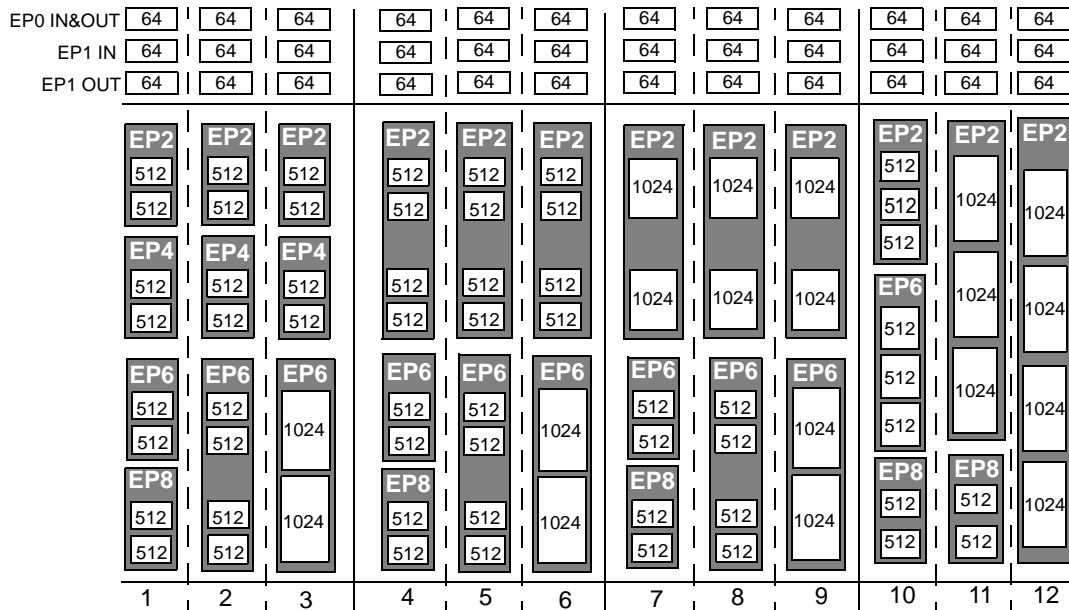

Figure 3-5. Endpoint Configuration
- Eight 512-byte buffers, bulk, interrupt, or isochronous. EP4 and EP8 can be double buffered, while EP2 and 6 can be either double, triple, or quad buffered. For high-speed endpoint configuration options, see *Figure 3-5*.